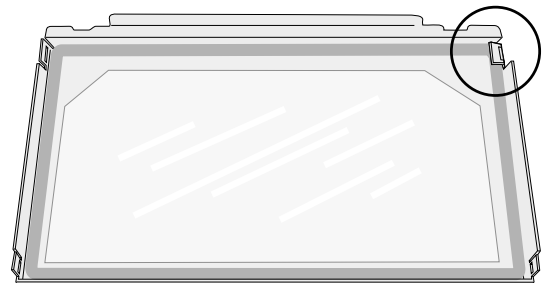

Figure 54. Bend the retainer tabs back enough to release the glass panel.
5. The glass panel is held in place by four tabs on the frame. Use a screwdriver or small pliers to pry these up enough to release the glass panel. See fig. 54.